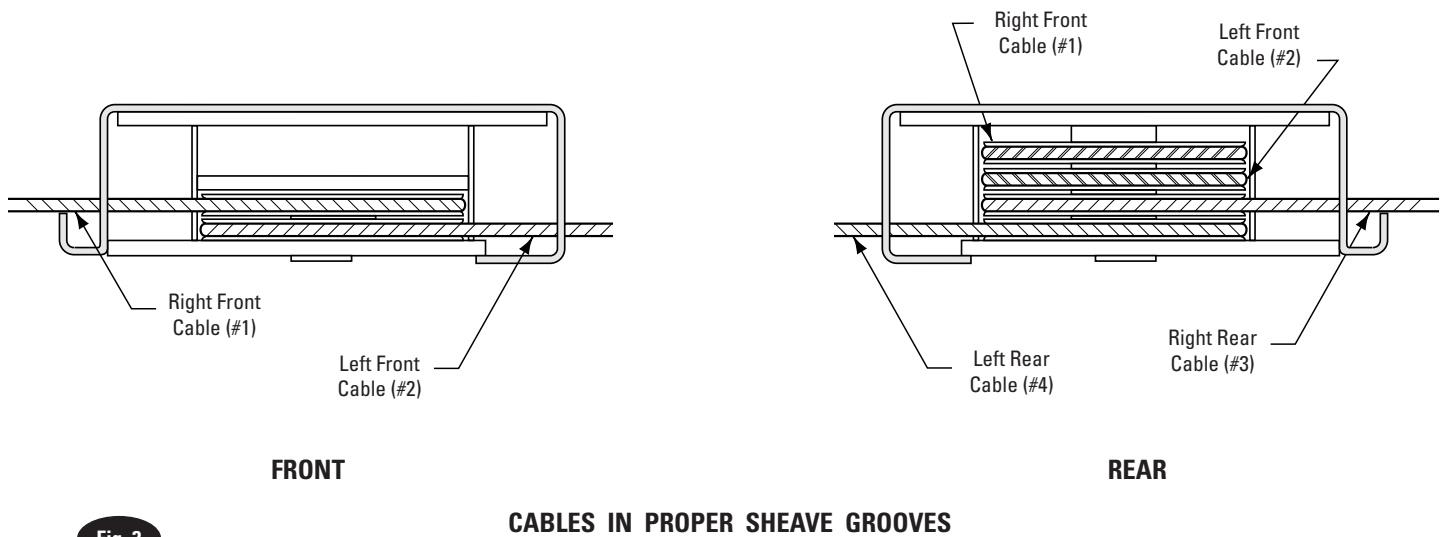

Fig. 3
- B. Position left runway in bay with hydraulic cylinder hose connection to front of bay. Cables and sheaves are pre-assembled in runway. Runway needs to be up off floor so shipping restraints can be removed from cable ends, air and hydraulic lines, and cylinder rod. Pull cable ends, air, and hydraulic lines out for assembly. Make sure cables are in proper sheave grooves, Fig. 3.